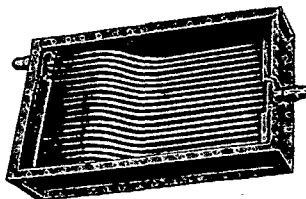

Fig. 2
**Flexitube Aerofin** (Fig. 2) is distinguished from all other developments by its off-set tubes, so arranged as to absorb all expansion and contraction strains.